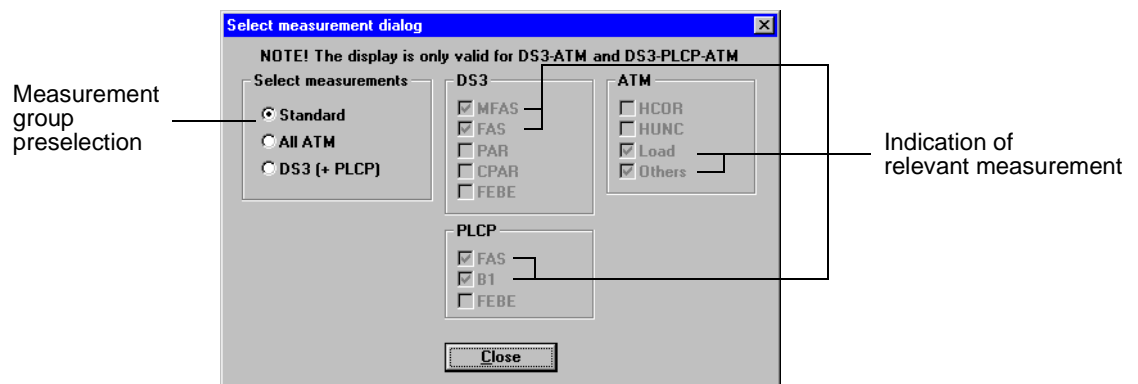

Fig. O-19 Dialog window for preselecting measurement modes for DS3 and DS3 PLCP mappings
When receiving ATM cells mapped into DS3 and DS3-PLCP, both these parallel measurement modes must be selected before starting the measurement. A dialog window (shown in Fig. O-19, Page O-15) is included in the “ATM Traffic Analyzer” and “Anomaly/Defect Analyzer” virtual instruments for this purpose.
- “Standard” group: Preselection of the most important measurement modes for the structure; (see Fig. O-19).